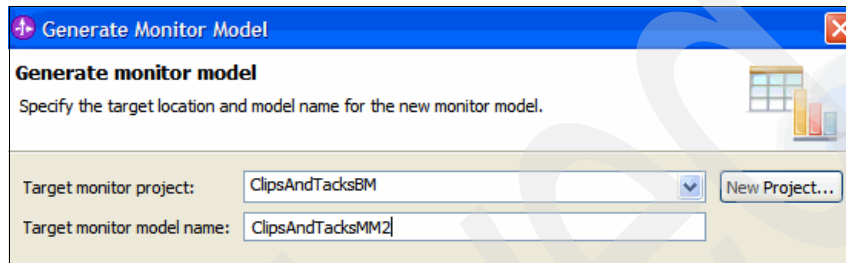

Figure 6-97 Specifying the monitor model location
2. In the Generate Monitor Model window (Figure 6-97), for Target monitor project, select **ClipsAndTacksBM**, and for Target monitor model name, type **ClipsAndTacksMM2**. Then click **Next**.